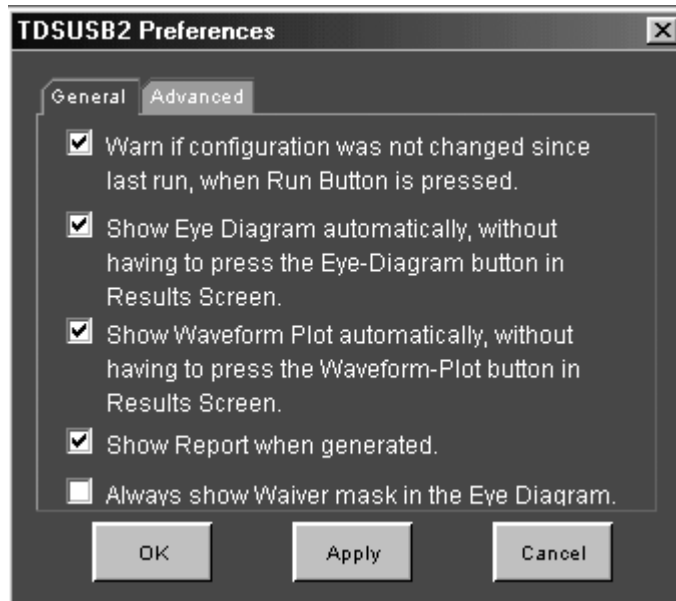

Figure 2-3 : Preferences:general tab
- Always display the waiver mask in the eye diagram Figure 2-3 shows the Preferences: General tab.